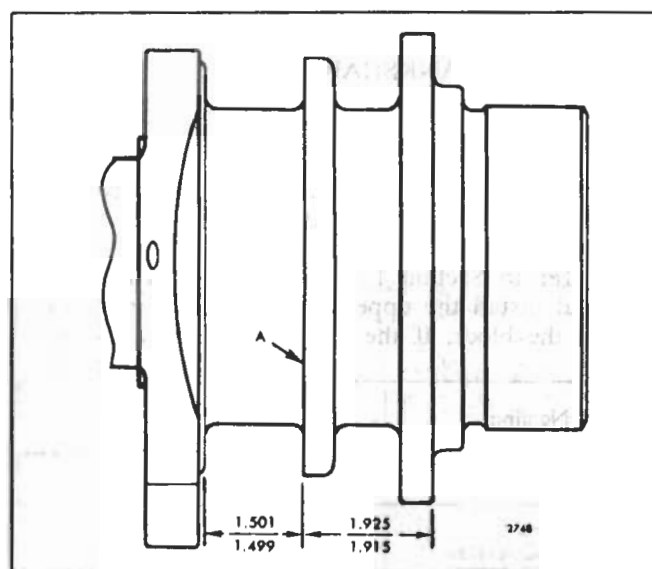

Fig. 8 - Standard Dimension at Rear Main Bearing Thrust Washers
Also measure the crankshaft thrust washer surfaces (Fig. 8).
6. If the thrust surfaces of the crankshaft (Fig. 8) are worn or grooved excessively, they must be reground and polished. Care must be taken to leave a .100" to .130" radius between each thrust surface and the bearing journal.
**NOTE:** If the crankshaft thrust surfaces were reground, it may be necessary to install oversize thrust washers on one or both sides of the rear main journal. Refer to Fig. 8 and Table 3.